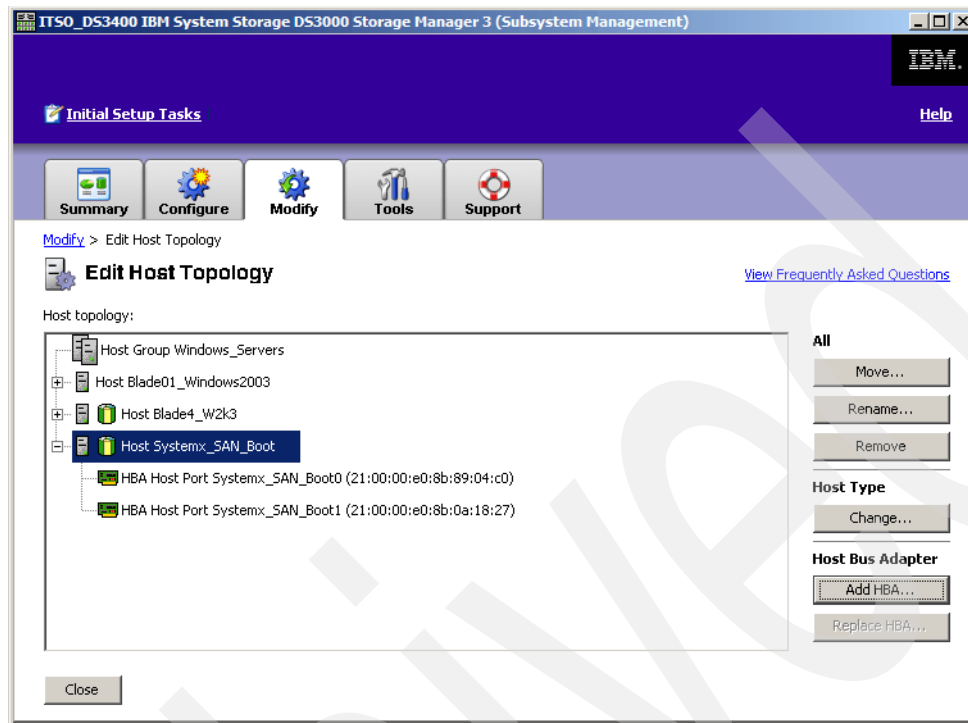

Figure 27-34 Both host ports are defined
3. Set the correct values for WWN, host type, and host port alias, and then click **Add**. As you can see in Figure 27-34, our host server now contains both host port definitions.